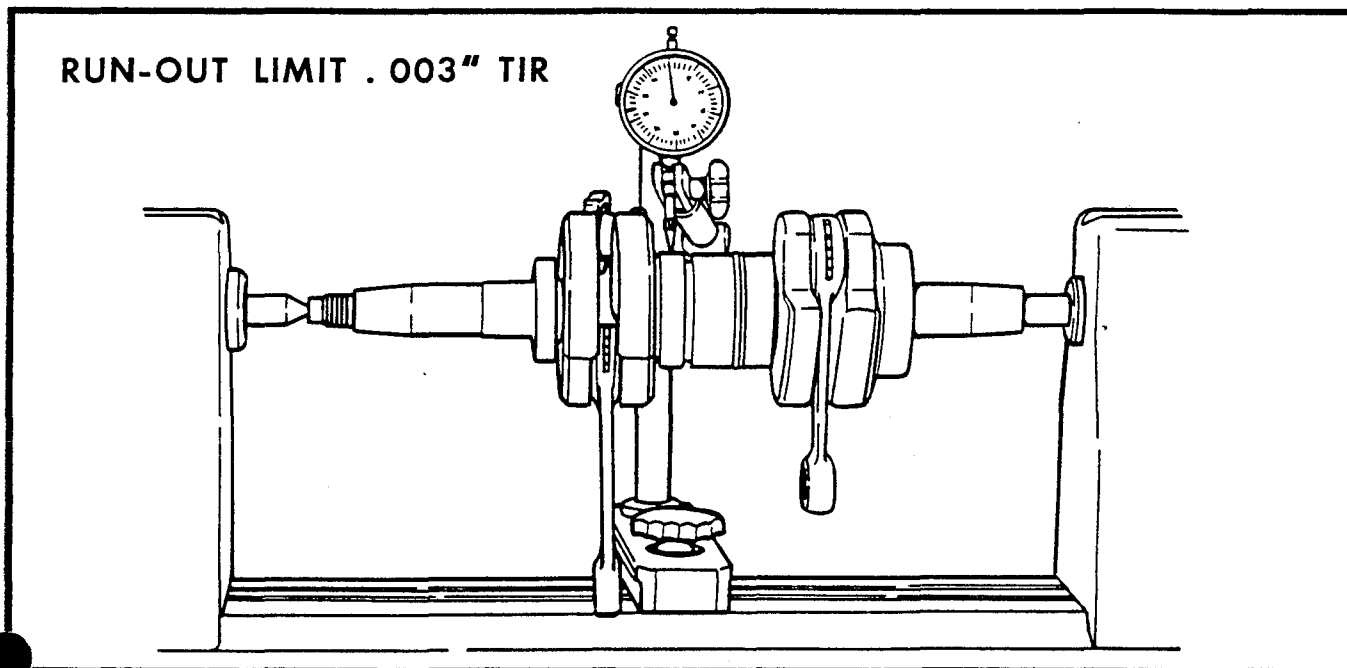

FIGURE 11-3 -- CHECK ALIGNMENT OF SHAFTS WITH DIAL INDICATOR
**SHAFT ALIGNMENT:** Install crankshaft in the lathe centers and check concentricity with dial indicator riding on shaft as shown in Figure 11-3. If run-out exceeds .003" TIR, remove shaft and try to bring back into alignment by either pinching weights closer together in a vise or by spreading them further apart with a metal wedge. Repeat alignment check after repositioning weights. If this fails to bring shafts back into alignment, a new assembly must be used.